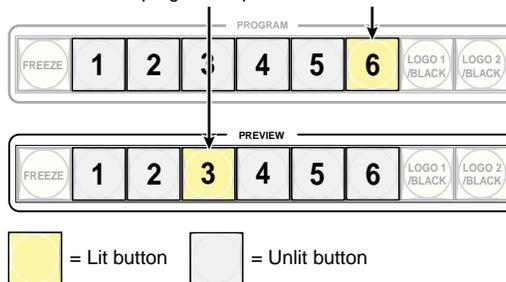

Figure 3-20 — Selecting an input
1. Press and release a preview input button (figure 3-20).